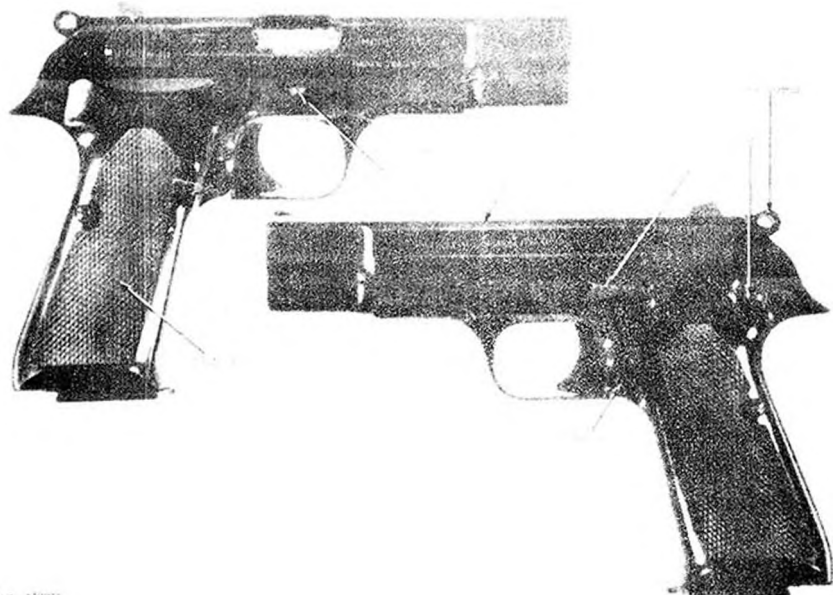
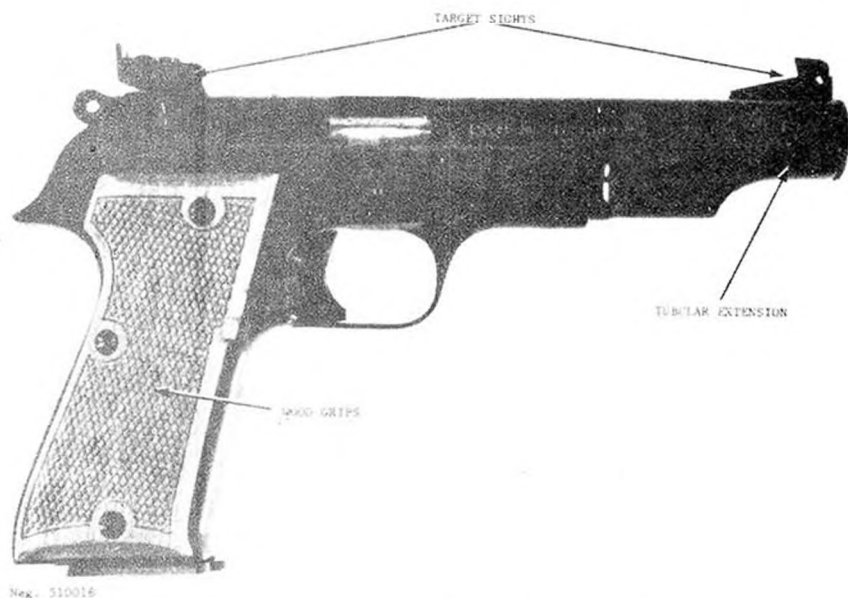

Figure 16. French M.A.B. P15S pistol.
Figure 17. French M.A.B. P15- PAP Model F1.
c. There are several versions of the P15; these include the standard model, the P15S (fig 16) and a target model, the PAP Model F1 (fig 17). The latter is identified by its target sights and tubular slide extension.
a. Press the magazine catch (fig 16) and catch the magazine as it ejects. Load the magazine as described in paragraph 3b; it holds 15 cartridges. Insert a loaded magazine into the pistol until the magazine catch snaps into place and retains the magazine. The P15 has a magazine safety and cannot be fired unless the magazine is in place.
b. Grasp the slide (fig 16) and pull it fully to the rear and release it. CAUTION: The pistol is now loaded and ready to fire.
c. If the pistol is not to be immediately fired, push the safety (fig 16) up. This locks both the trigger mechanism and slide. To fire, press the safety down, aim (using a normal sight picture), and press the trigger. The pistol will fire one shot and reload itself. To fire successive rounds, release and repress the trigger. The slide will remain rearward when the last round is fired.
d. To unload or clear the P15, press the magazine catch and catch the magazine as it is expelled. Push the safety down, if necessary, and while pressing the slide stop (fig 16) upward, pull the slide fully rearward and release it. The slide stop, under normal pressure, will snap into the slide stop notch in the slide and hold it open. Inspect to insure that no cartridges are present. Press the slide stop down to allow the slide to drive forward. Insert the magazine, and press the trigger.
a. To disassemble the P15 pistol, first clear it (para 27d) but do not insert the magazine or press the trigger. Apply strong finger pressure to the end of the slide stop pin (fig 18) and, while applying pressure, pull the slide (fig 16) about 1/4 inch to the rear. The slide stop (fig 16) will move out to the left a short distance; pull it completely out.